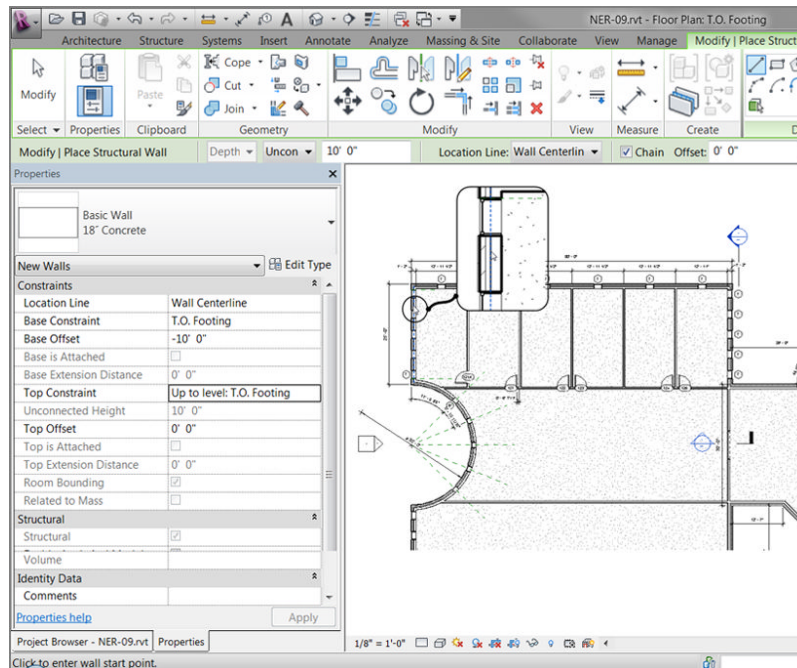

FIGURE 8.52: Picking the centerline of every exterior wall in the model. This includes the corridor and both wings.
8. Pick the centerline of the exterior wall, as shown in Figure 8.52.